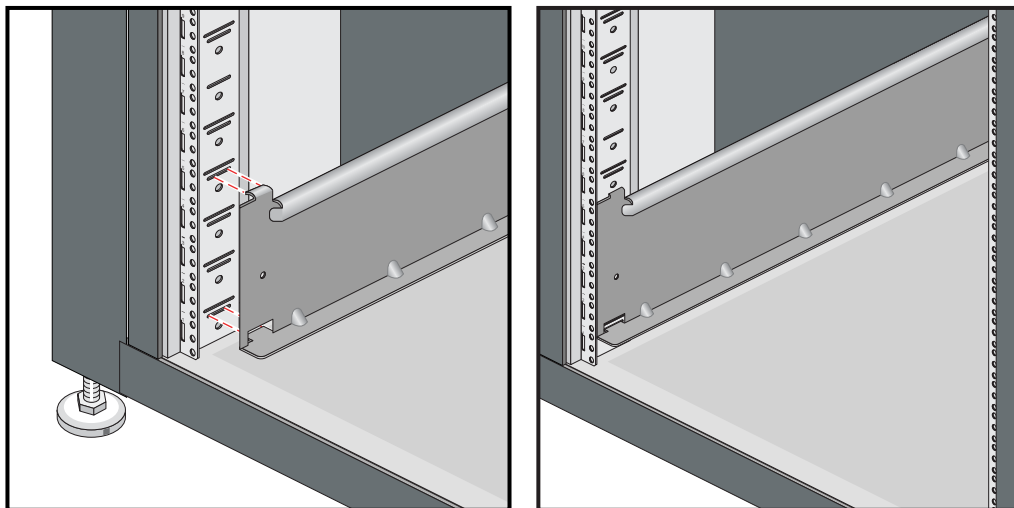

Figure 1-12 Installing the Shelf Rails in the Rack
2. In the slot location from step 1, position the left shelf rail at a 90-degree angle to the front and rear rack rails (see Figure 1-12).